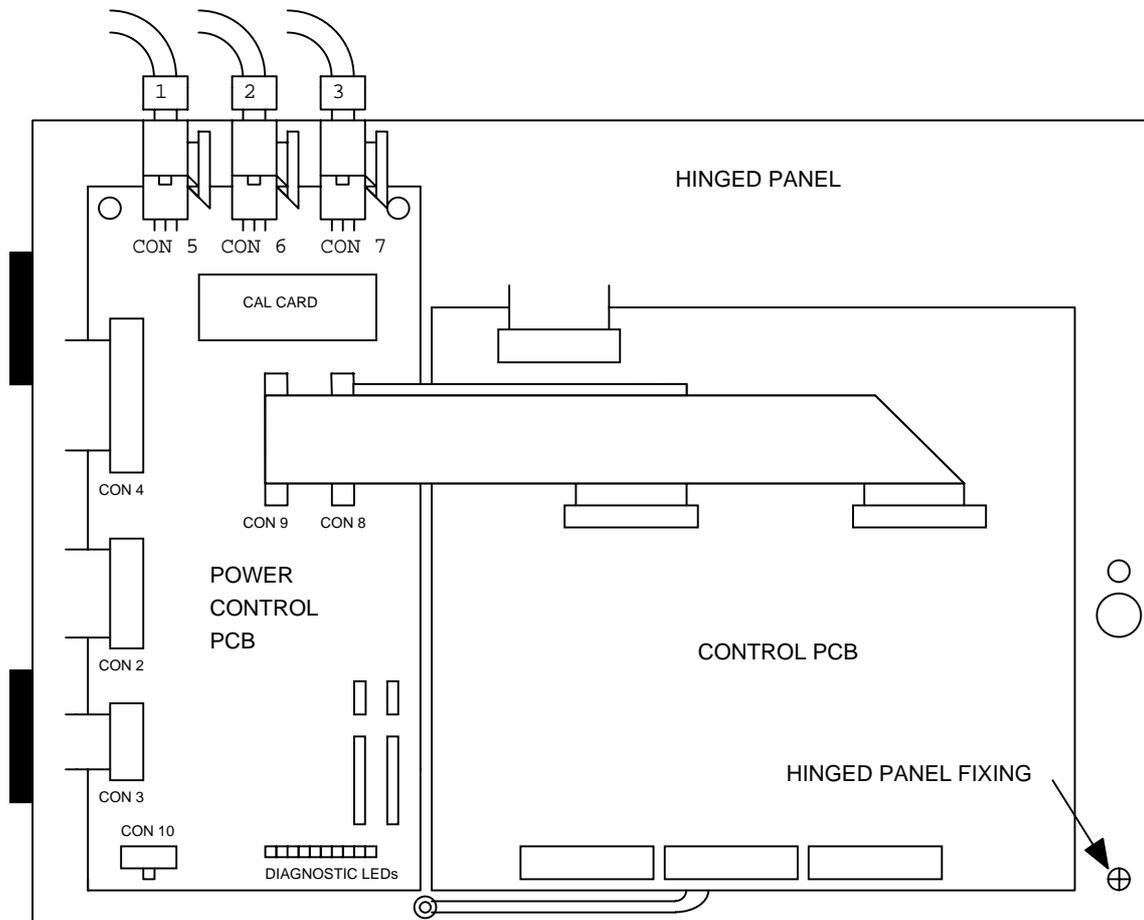

Figure 9.1
2. Disconnect 30-way op-station ribbon cable from power control PCB CON 10 (see figure 9.1).
4. It is now possible to view the power control PCB, control PCB and cal card as shown in figure 9.1.
7. Re-connect 30-way op-station ribbon cable to power control PCB CON 10 (see figure 9.1).
1. Follow steps 1 to 3 of procedure 'Power Control PCB, CAL card and control PCB replacement'. Release hinged panel fixing - 1 off $\frac{1}{4}$ turn fastener as shown in figure 9.1.
4. Re-fit hinged panel and $\frac{1}{4}$ turn fastener as shown in figure 9.1.
6. Re-connect 30-way op-station ribbon cable to power control PCB CON 10 (see figure 9.1).
4. Release hinged panel fixing - 1 off $\frac{1}{4}$ turn fastener as shown in figure 9.1.
7. Re-fit hinged panel and $\frac{1}{4}$ turn fastener as shown in figure 9.1.
9. Re-connect 30-way op-station ribbon cable to power control PCB CON 10 (see figure 9.1).
5. Release hinged panel fixing - 1 off $\frac{1}{4}$ turn fastener as shown in figure 9.1.
12. Re-connect 30-way op-station ribbon cable to power control PCB CON 10 (see figure 9.1).